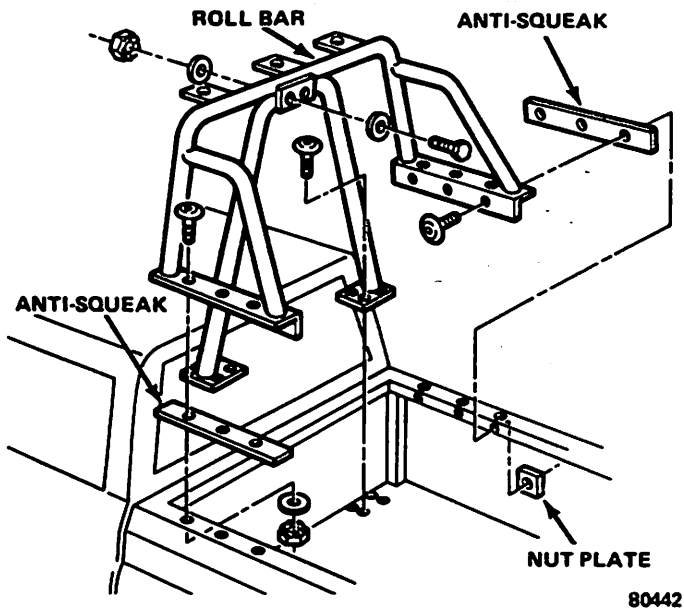

Fig. 3F-27 Roll Bar—Townside Truck
- (1) Remove CB radio antenna from roll bar, if equipped.
- (2) Remove nuts, washers, bolts and nut plates (fig. 3F-27) attaching roll bar to side of pickup box, using Torx Bit Tool J-25359-C.